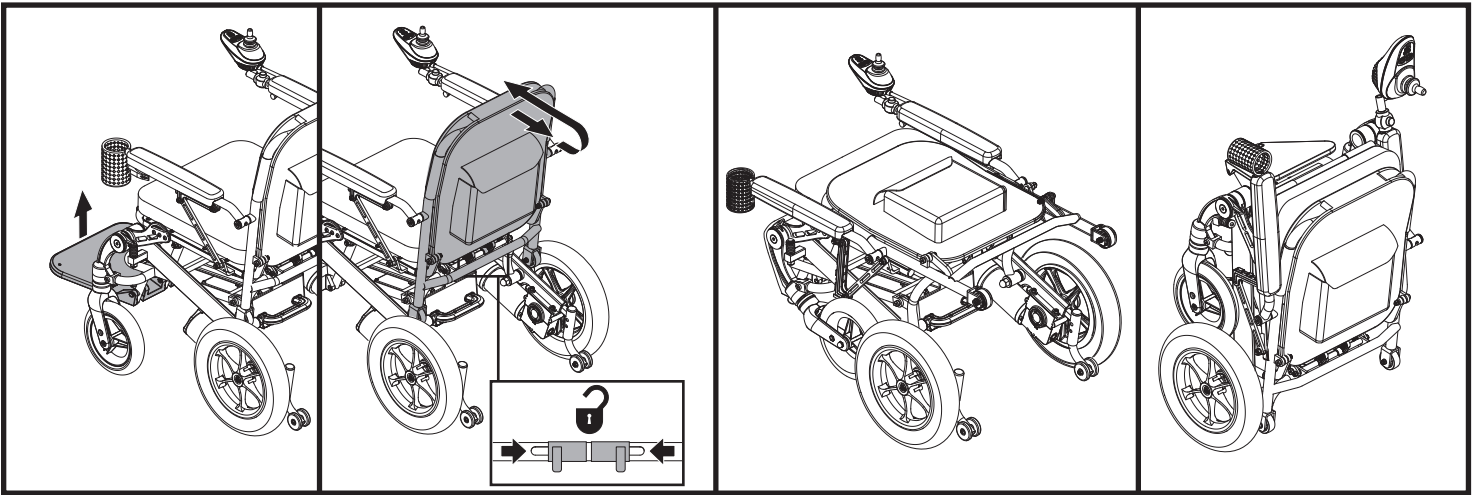

Figure 7. Folding the Jazzy® Passport
3. Place one hand on top of the seatback and pull it toward you while squeezing the pins of the locking mechanism together. **See figure 7.**